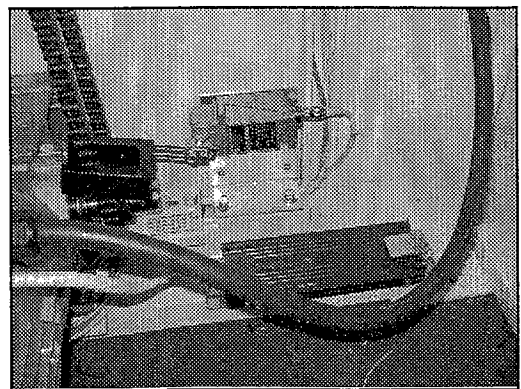

Figure 23
5. Make sure chain break block does not hit reducer before actuating. See Figure 23.